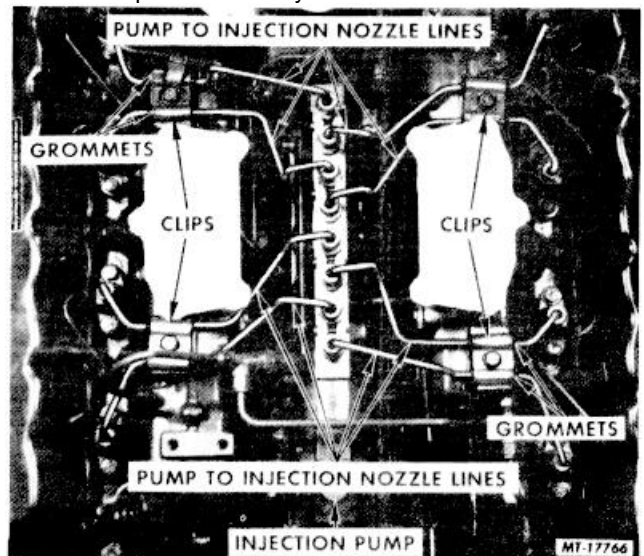

Fig. 32 Injection Lines
- Remove clips and grommets from fuel injection lines and disconnect lines from injection pump and nozzles (Fig. 32).